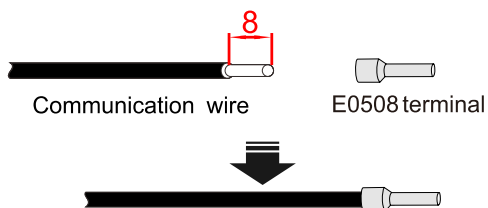

Figure3-40 Stripping diagram of communication wire (unit: mm (in))
Step 2 Strip the insulation layer of wire for about 8mm, as shown in Figure3-40.
Step 5 Strip the insulation layer of wire for about 8mm, as shown in Figure3-40.